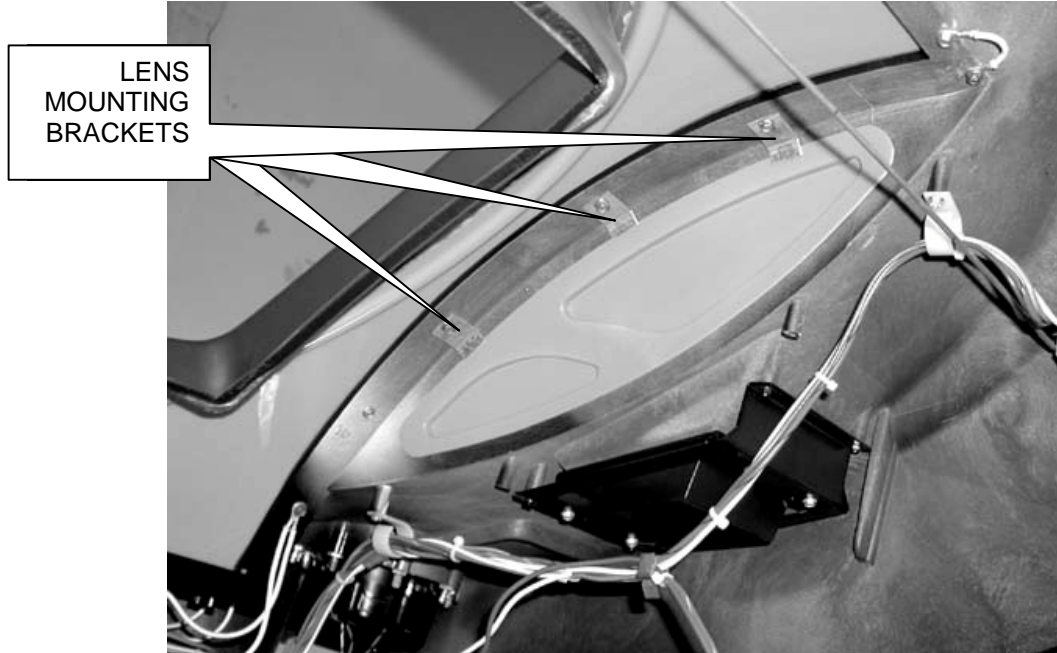

Figure 10 - Pocket Light Lens Brackets
2. Remove the three screws and brackets that hold the pocket light lenses in place and remove the lenses. Refer to *Figure 10*.